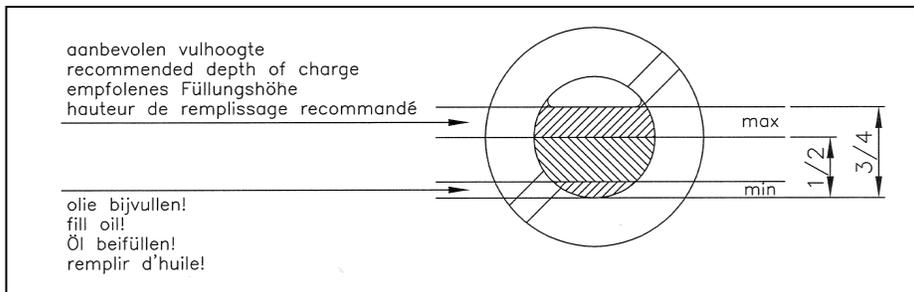

Figure 6: Recommended oil level in gauge glass
- Fill the meter **at the front and rear side** to the **indicated level** with the oil supplied (see Figure 6).
- The correct reading of the oil level will be found a few minutes after filling. The **maximum level** of Figure 6 is recommended.